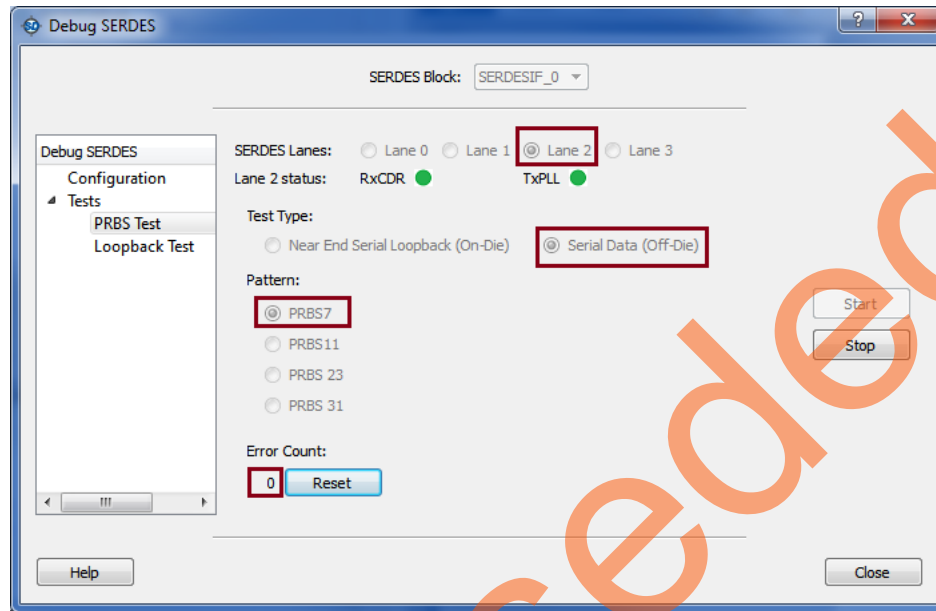
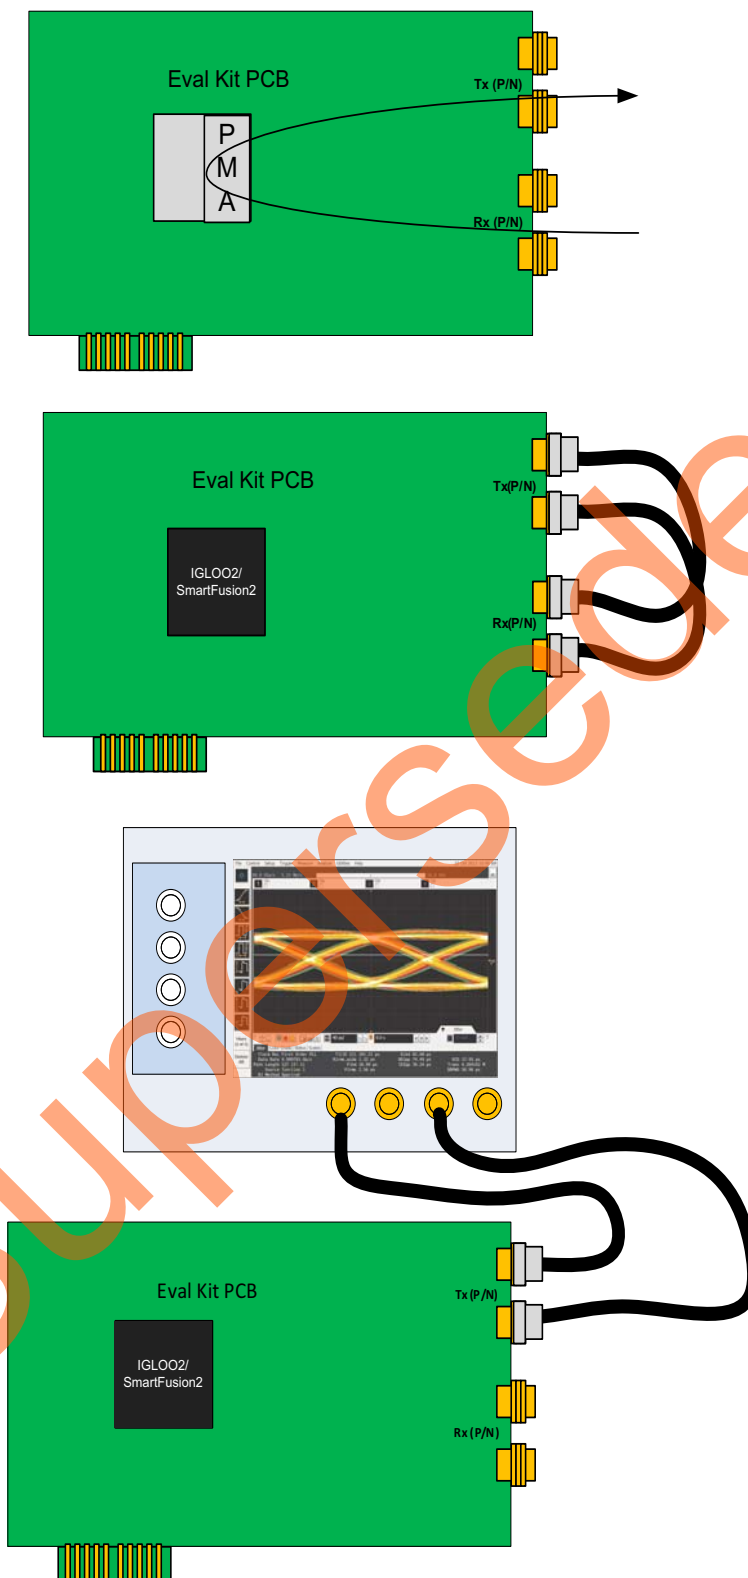

Figure 33 • External Cable Loopback
Figure 34 • Evaluation Kit Board with External Coax Loopback Setup
6. The Tx and Rx channels of Lane 2 can be interconnected in a loopback configuration using coaxial cables. In this example, as shown in Figure 33 and Figure 34, after connecting a pair of high-quality 50 Ω SMA cables to the SMA connections on the Evaluation Kit board, SERDES debug can be used to send data off-board and check for errors. Select **Lane 2**, **Serial Data (Off-Die)**, **PRBS7**, and click **Start**.